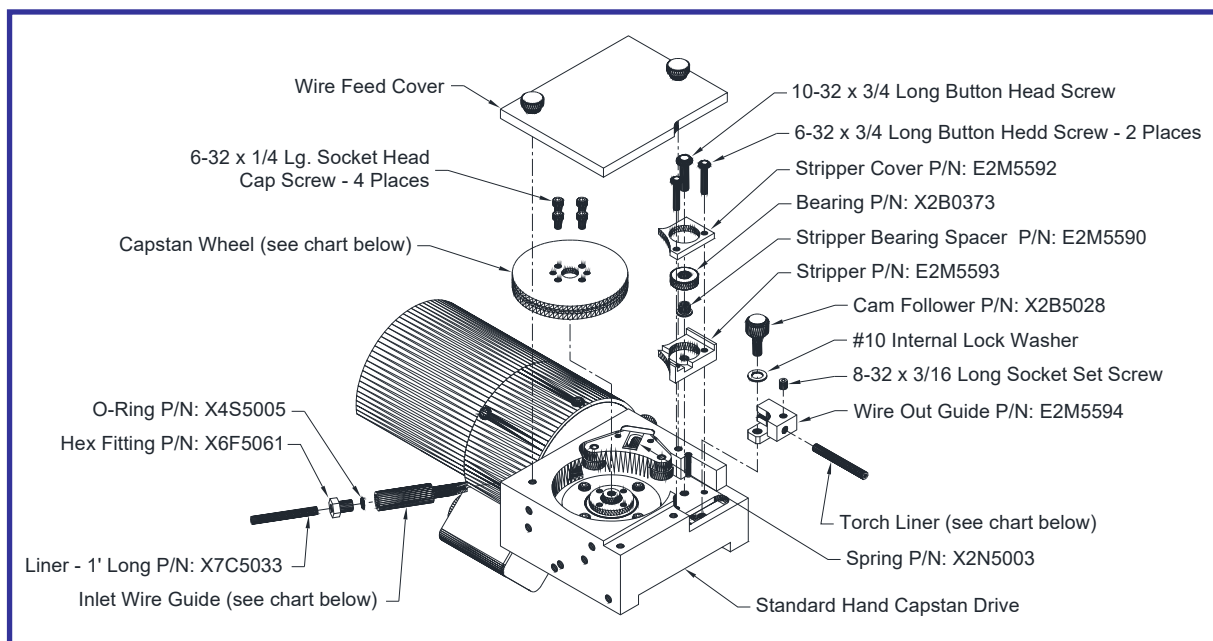

Figure 6 – Steel Alloy Standard Hand Wire Drive Configuration
- 4.1 When using a steel alloy filler wire with the capstan, a Non-aluminum Wire Kit specifically made for each size wire must be installed on the capstan. Figure 6 and 7 show all the parts that are included in these kits. The capstan drive is not part of these kits.